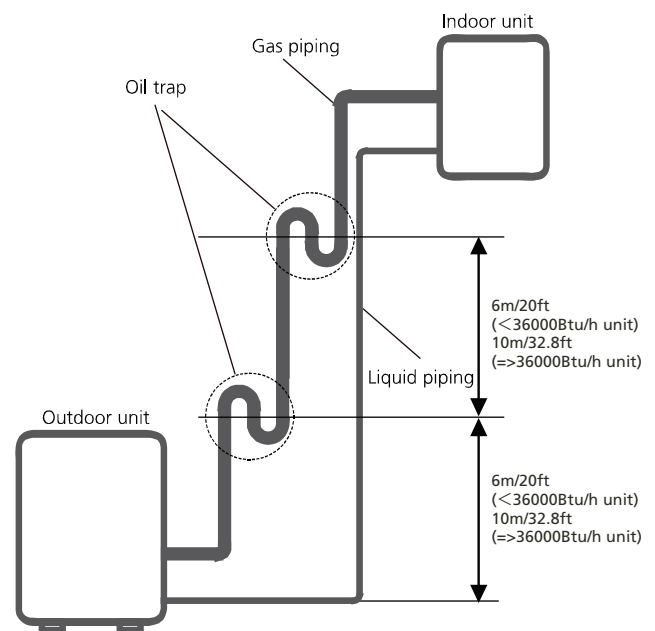

Fig. 6.1
- If oil flows back into the outdoor unit's compressor, this might cause liquid compression or deterioration of oil return. Oil traps in the rising gas piping can prevent this. An oil trap should be installed every 6m (20ft) or 10m (32.8ft) of vertical suction line riser. (See Fig. 6.1)